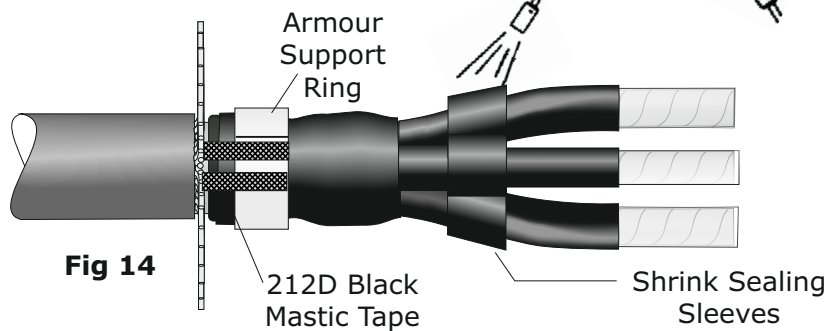

Fig 14
19. Apply the 212D black mastic tape over any exposed lead sheath as shown in Fig 14 and position the armour support rings over the bottom of the breakout body.
20. Position the short adhesive lined shrink sealing sleeves (Fig 14) and shrink into position so they cover the end of the breakout boot fingers.